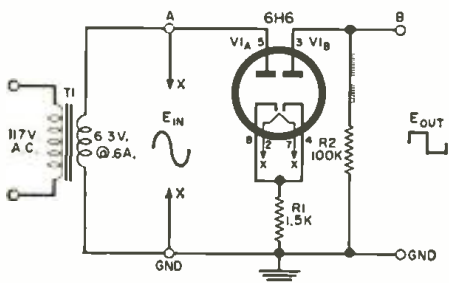

Fig. 1. Schematic of a unit using a twin-diode. If a twin-triode is used, the control grids should be tied to the cathodes.
Waveforms obtained in the circuit of Fig. 1. (A) is the voltage across  $R_1$ . (B) to (E) show the effect of increasing the input amplitude at 60 cps. The waveform at (D) is about what would be expected at 6.3 volts input. (F) is the output waveform obtained when an audio oscillator set at approximately 500 cycles per second is substituted for the 6.3-volt heater
The circuit of the square-wave generator is shown in Fig. 1, although its operation is not too obvious from this schematic. A sinusoidal input voltage is applied between point "A" and ground and a square-wave output voltage appears between point "B" and ground. Unlike a conventional sine-wave clipper, this circuit requires no external bias voltage. Instead, the circuit generates its own direct voltage, which is then chopped by the input voltage.
If the external circuit between the cathode and plate of  $V_{in}$  is closed, as it is by  $R_1$  and  $R_2$  in Fig. 1, for example,